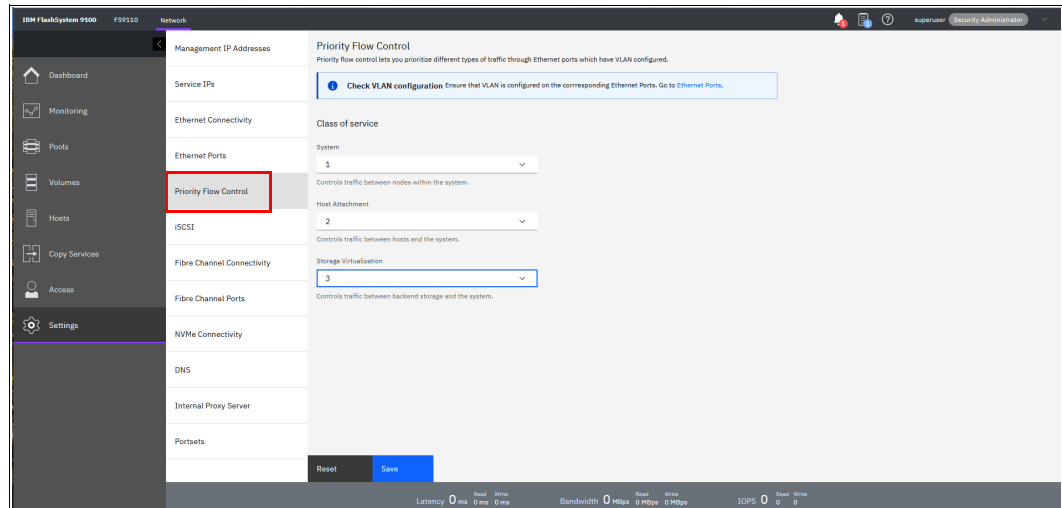

Figure 4-82 Priority flow control
1. In the management GUI, select **Settings** → **Network** → **Priority Flow Control**, as shown in Figure 4-82.